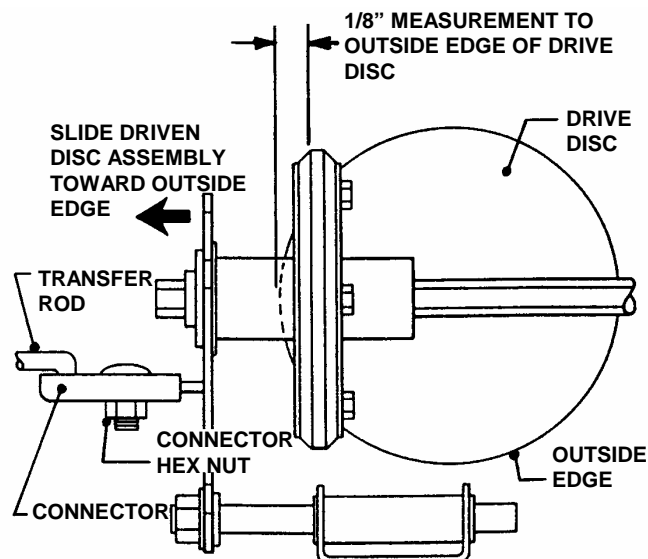

FIGURE 4.10
3. Slide driven disc assembly over to 1/8" from outside edge of drive disc. Maintaining the 1/8" measurement, remove any looseness from the linkage. This can be done by holding the transfer rod and applying pressure to the left (as viewed from operators position). Then retighten the connector hex nut securely. See Figure 4.10. Move ground speed control to the first speed position, then back to the sixth speed position. Recheck the 1/8" measurement described previously. Reinstall driven disc spring to driven disc assembly.